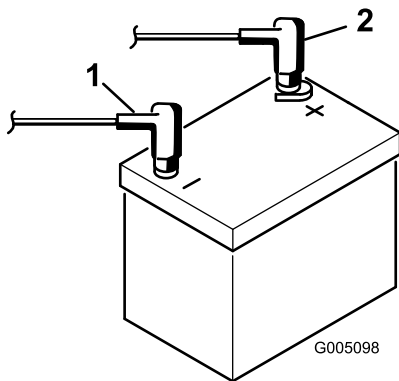

Figure 9
9. Install the positive cable (red) to the positive (+) terminal and then the negative cable (black) to the negative (–) terminal of the battery and secure them with the bolts and nuts (Figure 9). Slide the rubber boot over the positive terminal to prevent a possible short from occurring.